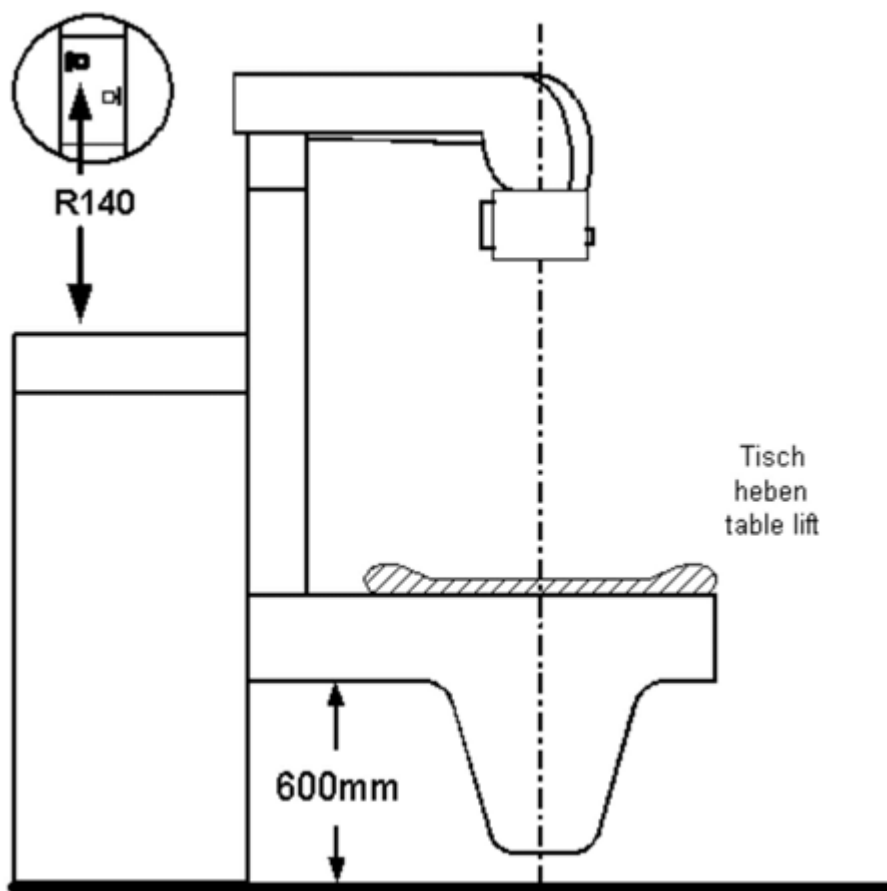

Fig. 33: Adjustment - table lift
- Using the service keys, move the lift drive into the reference position (Fig. 33 / p. 52).
Access: through lifting base (see arrows (Fig. 33 / p. 52))